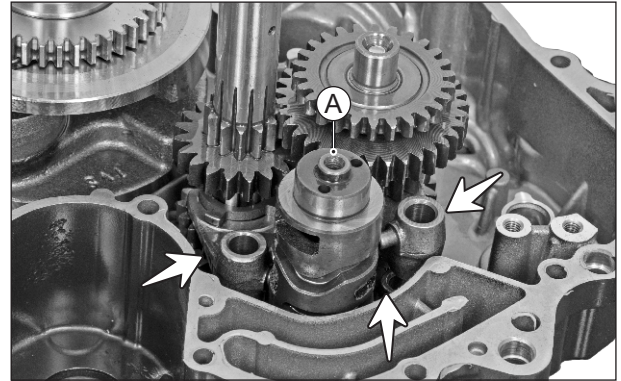

Fig. 3.148
- Dislocate the fork gear shift no.1, fork gear shift no. 2 and fork gear shift high speed from cam gear shift and take out the cam gear shift (A). (Fig. 3.148)